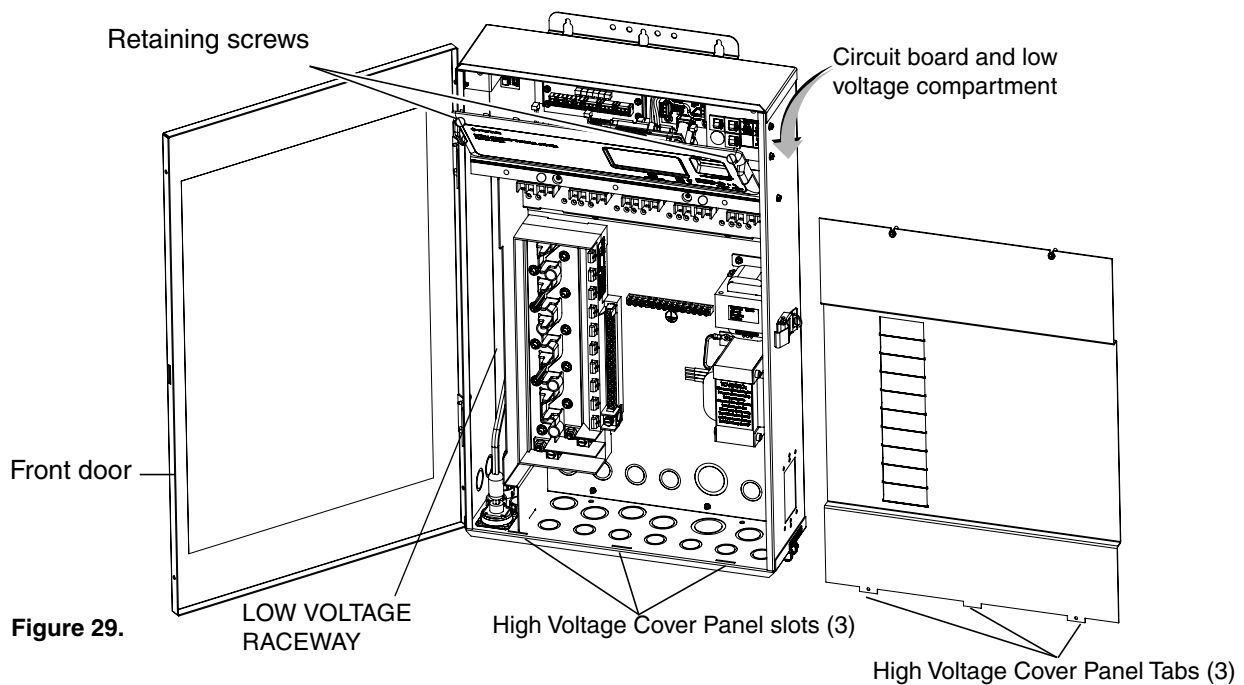

Figure 29.
9. Secure the panel with the two (2) retaining screws. Close the front door and secure with the latch. See Figure 29 on page 21.